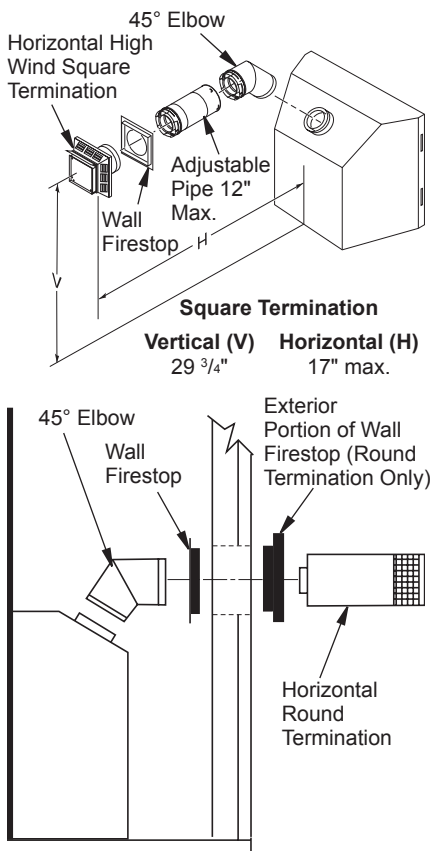

Figure 14 - Horizontal Termination Configuration for Square or Round Termination
IMPORTANT: Horizontal square terminations require only inner portion of wall firestop. Horizontal installations using round termination require exterior portion of wall firestop (see Figure 14, page 12).
1. Set the fireplace in its desired location and determine the route your horizontal venting will take. Do not secure the fireplace until all venting has been installed. Some installations require sliding the fireplace in and out of position to make final venting connections. Figures 14 through 18 on pages 12 through 14 show different configurations for venting with horizontal termination that will help you decide which application best suits your installation. Check to see if wall studs or roof rafters are in the path of your desired venting route. If they are, you may want to adjust the location of the fireplace.
Figures 14 through 18 show different configurations and alternatives for venting with horizontal termination. Each figure includes a chart with critical minimum and maximum dimensions which **MUST** be met. **IMPORTANT:** If using a venting configuration of only horizontal venting with no vertical run, a 1/4" rise for every 12" of run toward the termination is required.